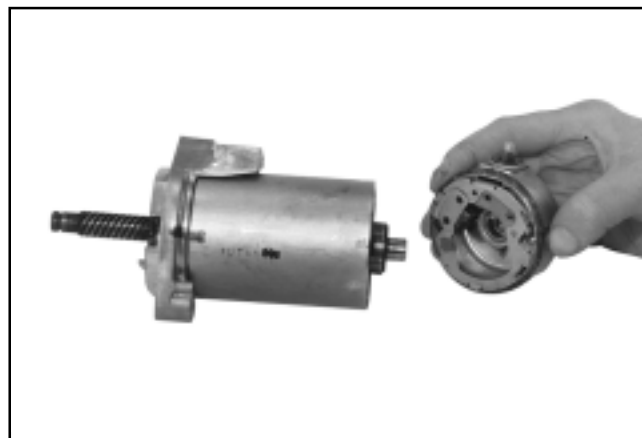

Figure 8-31. Removing End Cap with Brush Plate.
5. Remove the commutator end cap and brush plate assembly. See Figure 8-31.